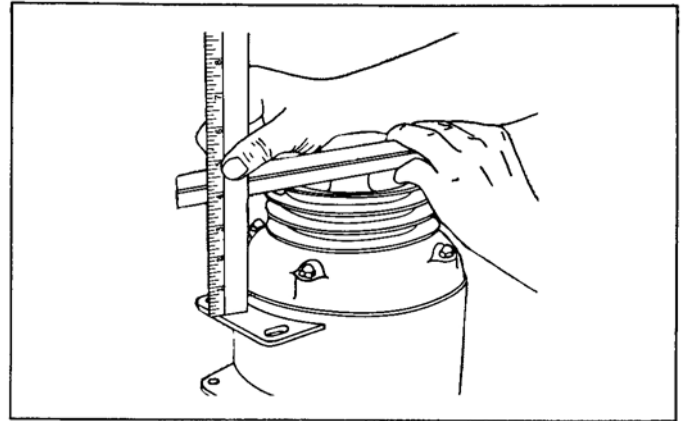

Fig. 1.
2. The proper position of the motor pulley on the shaft is $3 \frac{3}{4}$ " from the outer face of the pulley to the top of the ear on the motor frame, as shown in Fig. 1.